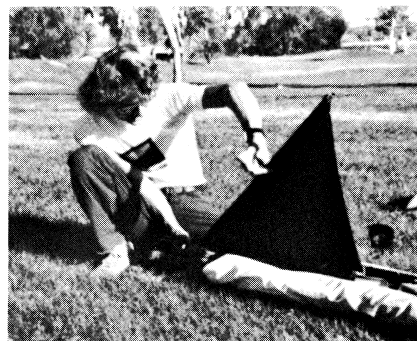

Fig. 5
(5) Erect the winglets (See Fig. 5) on the top of each truncated wingtip tube. Pull each winglet tube up into position and secure with clevis pin through the winglet bracket underneath the winglet tube. Fasten safety pin in clevis pin to prevent loss. Pull the wings out slightly.